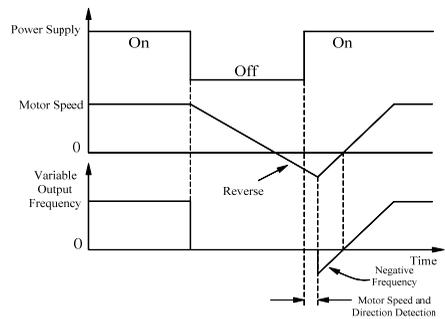

Figure7-5 Speed Search Start
**F0-19=1** Speed search start: Before inverter starts, the motor may be rotating. Detecting motor speed and direction when inverter starts running, the speed and direction of motor can be directly searched base on the detection result. Smooth start can be applied to the motor which is rotating. The process of speed search is as shown on Figure 7-5.